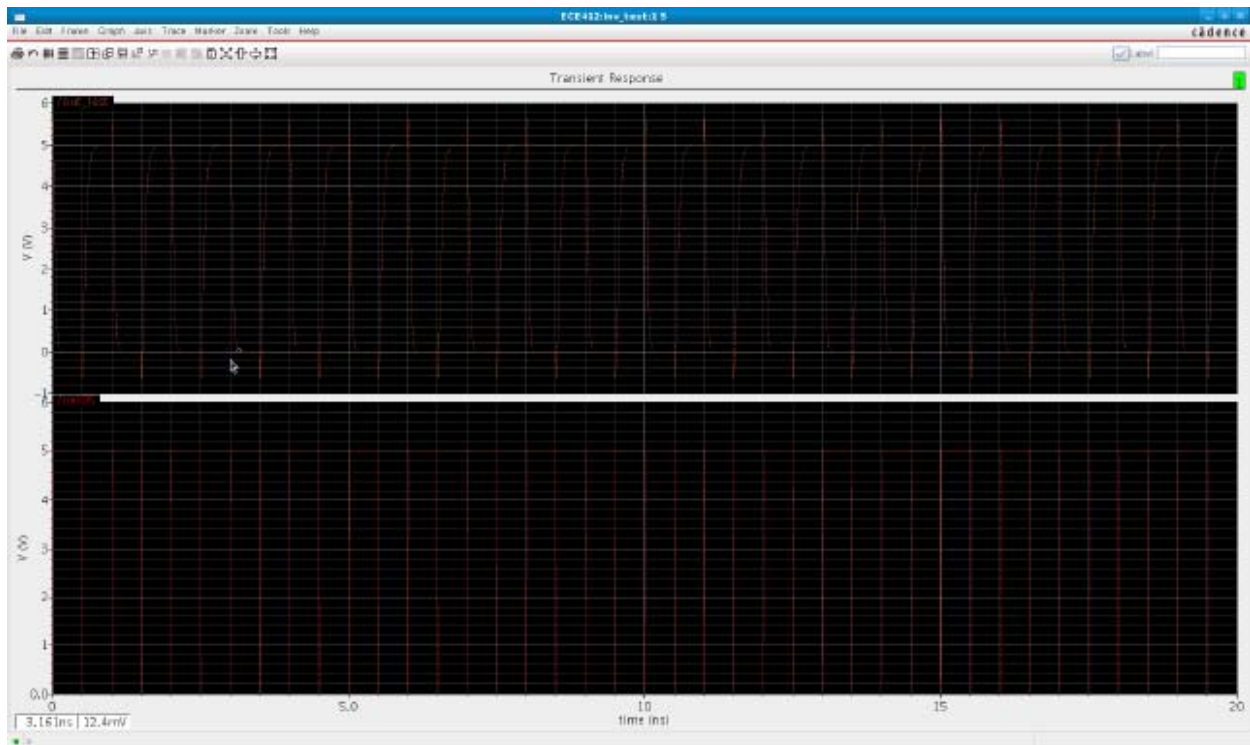

Figure 5: Transient response with two different axis's
6. Start the simulation by clicking on the green play icon or go to **Simulation → Run**. The resulting plot should appear in front of you as shown in figure 5.